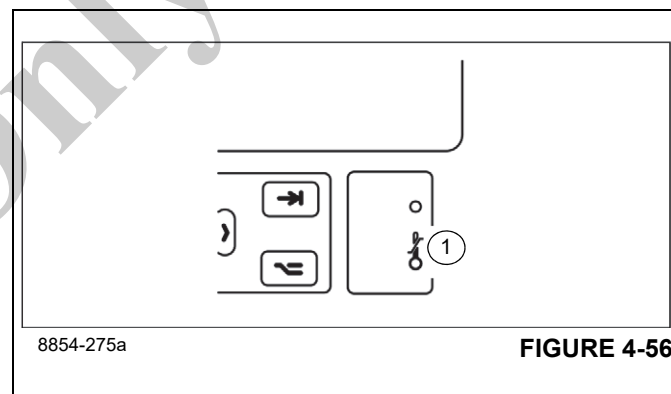

FIGURE 4-56
If the temperature on the display is too high, the brightness is reduced automatically – lamp (1), (Figure 4-56) lights up.